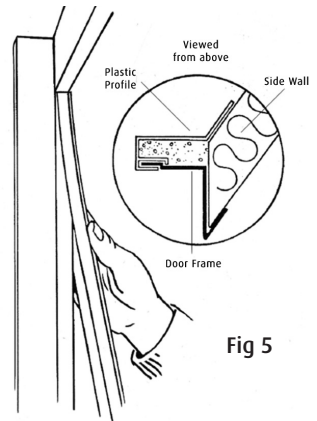

Fig 5
6. Fit the long plastic profile with insulation into the groove in the door frame, and push it into place so that the lip lies against the side wall on both sides (Fig 5)